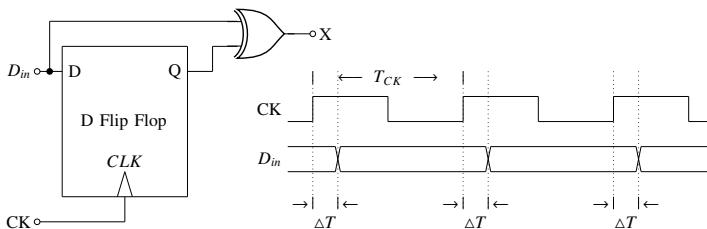

Fig. 5.25
25. In the circuit shown below, a positive edge-triggered  $D$  Flip-Flop is used for sampling input data  $D_{in}$  using clock  $CK$ . The  $XOR$  gate outputs 3.3 volts for logic HIGH and 0 volts for logic LOW levels. The data bit and clock periods are equal and the value of  $\Delta T/T_{CK} = 0.15$ , where the parameters  $\Delta T$  and  $T_{CK}$  are shown in Fig. 5.25. Assume that the Flip-Flop and the  $XOR$  gate are ideal. If the probability of input data bit ( $D_{in}$ ) transition in each clock period is 0.3, the average value (in volts, accurate to two decimal places) of the voltage at node  $X$ , is .....